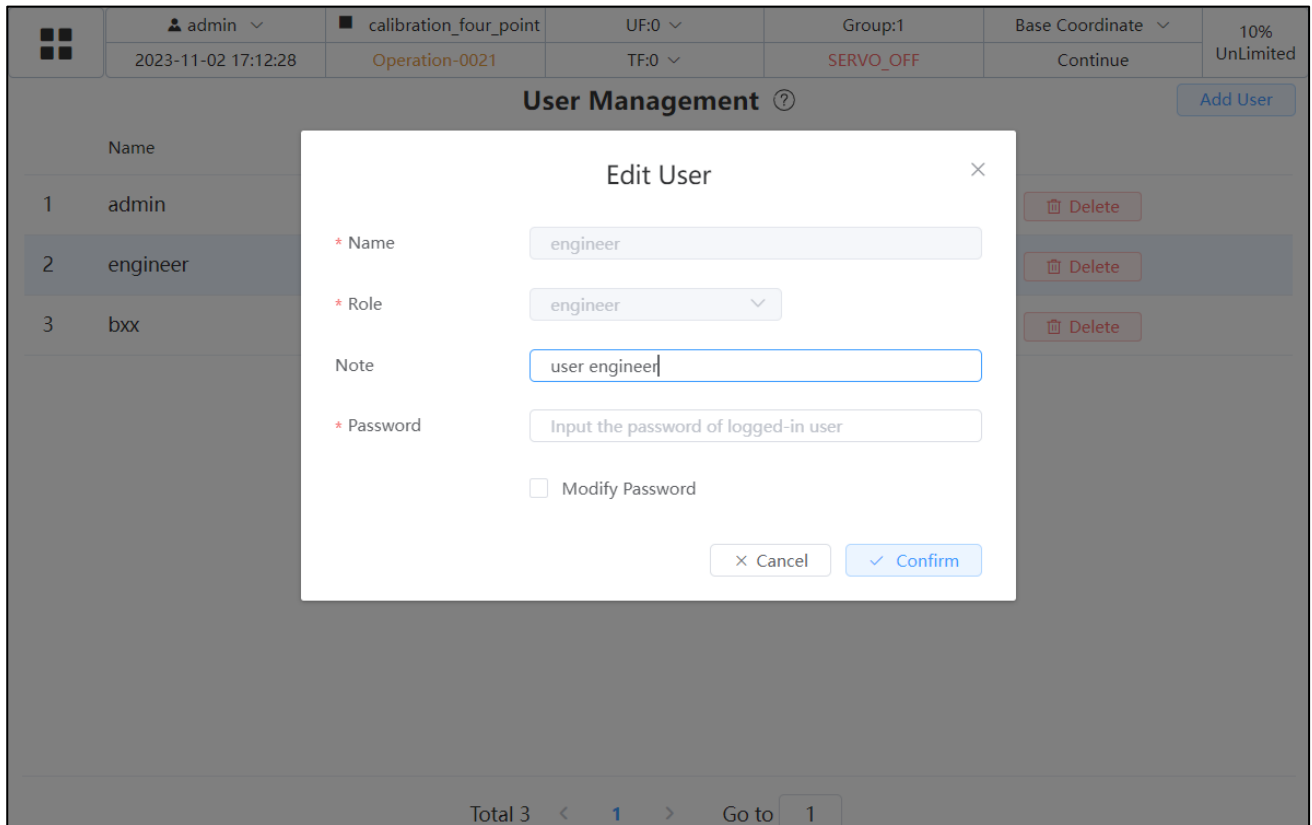

Fig. 2.52 “Edit User” Interface
4. Click ☐ before “Modify Password” to enter the password modification interface , as shown in Fig. 2.52.